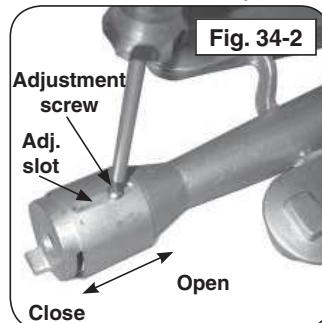

Fig. 34-2
- Adjust the air shutter opening by loosening the adjustment screw with a screwdriver, then sliding the air shutter backward or forward to open or close the air shutter opening (see Fig. 34-2).